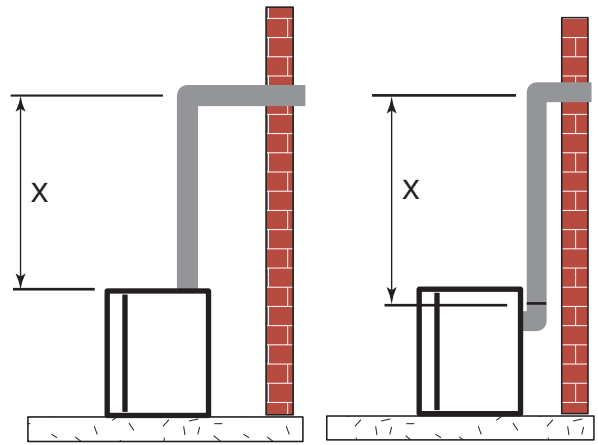

Figure 29 - Vertical Height Requirements FP1181
Place fireplace into position. Measure the vertical height (X) required from the base of the flue collars to the center of the wall opening. *Figure 29*